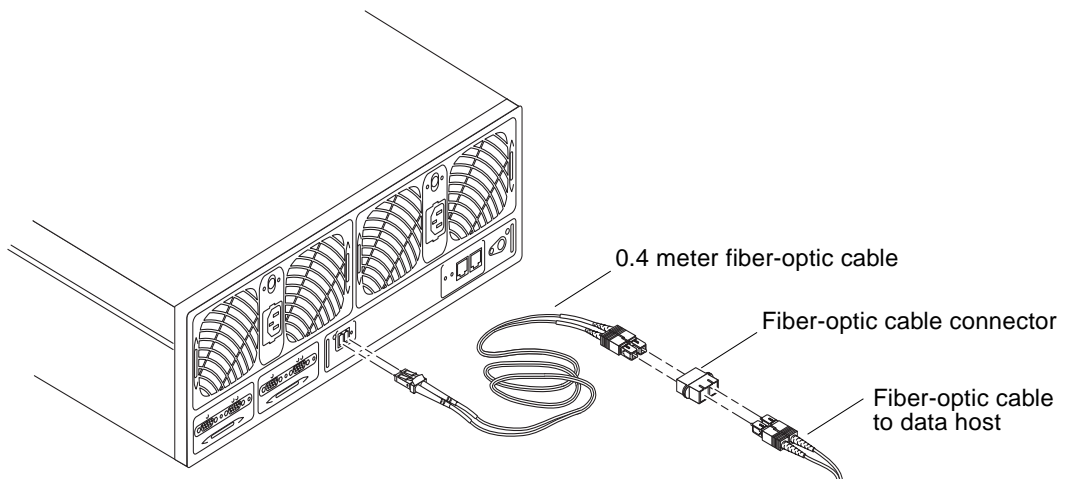

FIGURE 1-6 Fiber-Optic Cable Connection to Array Controller Card Upgrade
7. Insert the new 0.4 meter fiber-optic cable in the FC-AL connector on the new controller card, as shown in FIGURE 1-6.
8. Connect the fiber-optic cable from the data host to the 0.4 meter fiber-optic cable using the cable connector from the upgrade kit (FIGURE 1-6).